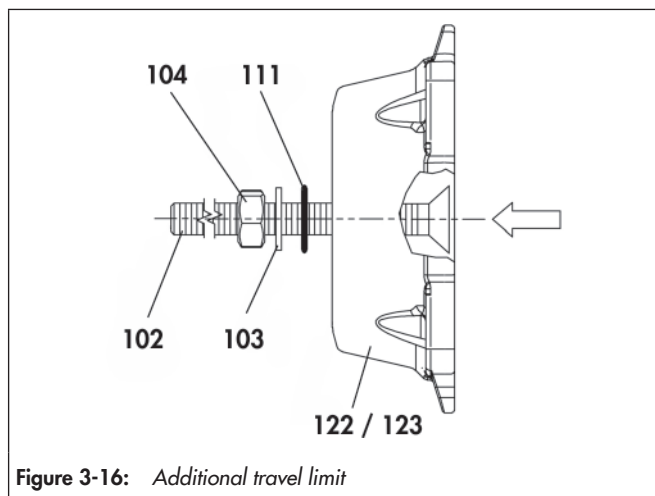

Figure 3-16: Additional travel limit
- ⇒ Observe the installation sequence, see Figure 3-16.
- ⇒ Assemble the end cap on the housing (29).
- ⇒ Complete tightening the screws (13), tighten each screw in the indicated order one rotation each, see Figure 3-16.